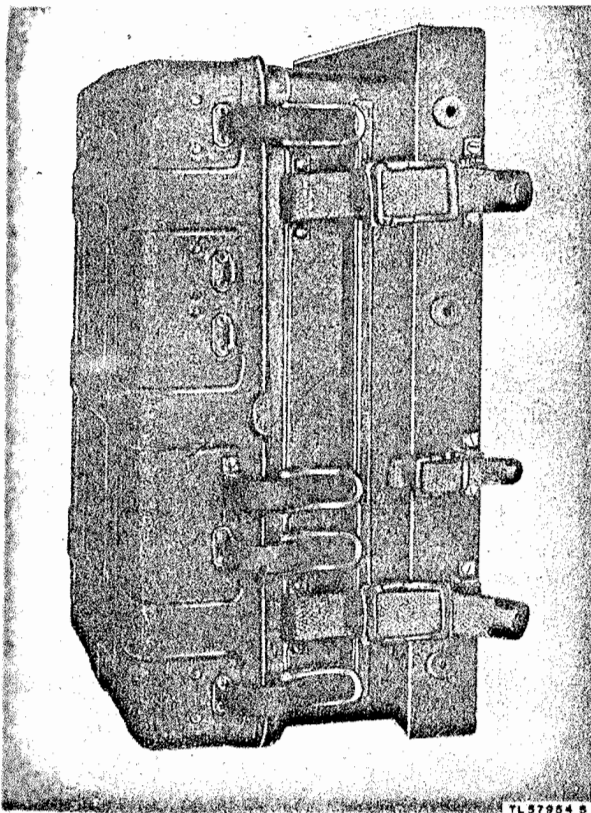

Figure 47. Receiver-Transmitter RT-77/GRC-9, mounted for vehicular transportation or storage.
c. For transportation or storage, strap receiver-transmitter in Mounting MT-350/GRC-9 with Panel Cover CW-109/GRC-9 cured over the face with the clamps (fig. 47) WHEN REMOVING THE PANEL COVER.
(fig. 47).